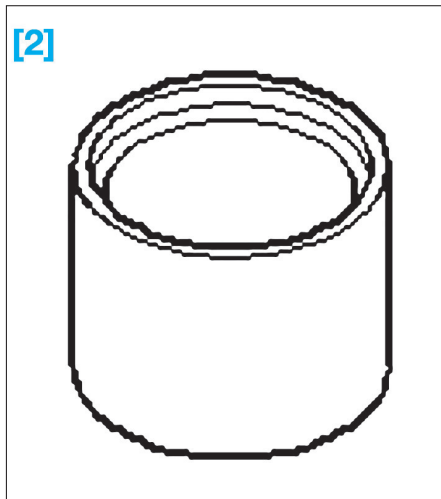

FIG. 33
- [2]. Tube Ref. 2010 (Fig.33).